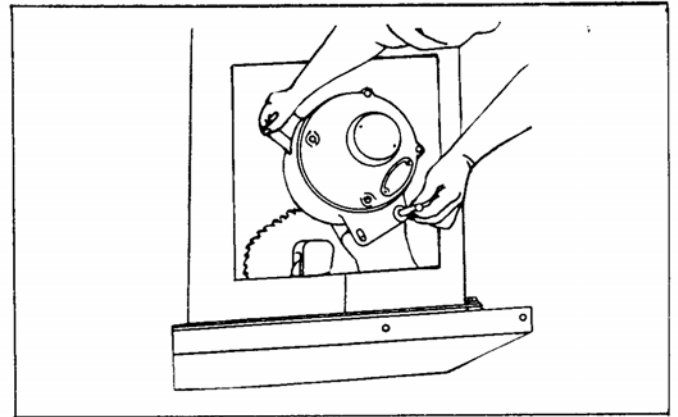

Fig. 5.
7. After the ears on the motor frame are engaged with the motor bracket, it is possible to hold the motor in position with the right hand only. Then insert the motor pivot pin as shown in Fig. 5.